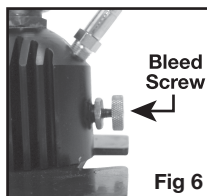

Fig 6
7. Make certain the bleed valve on the hand pump is fully closed (tighten in a clockwise direction) (Fig.6).